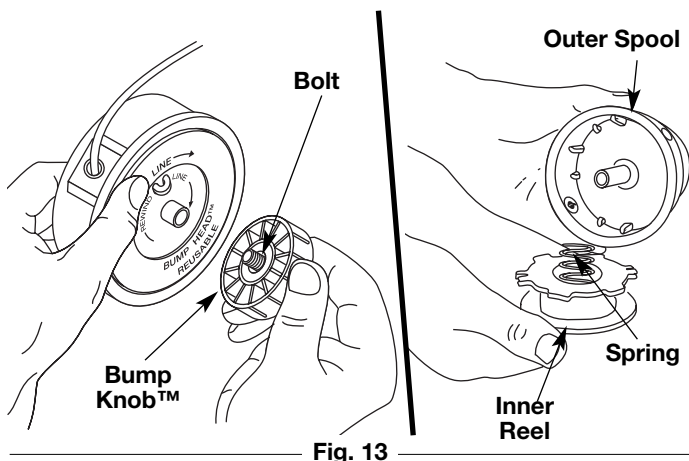

Fig. 13
1. Hold the outer spool with one hand and unscrew the Bump Knob counterclockwise (Fig. 13). Inspect the bolt inside the bump knob to make sure it moves freely. Replace the bump knob if damaged.
2. Remove the inner reel from outer spool (Fig. 13).
3. Remove spring from the inner reel (Fig. 13).
1. Hold the outer spool with one hand and unscrew the bump knob counterclockwise. Inspect the bolt inside the bump knob to make sure it moves freely. Replace the bump knob if damaged (Fig. 13).
2. Remove the old inner reel from the outer spool (Fig. 13).
3. Remove the spring from the old inner reel (Fig. 13).